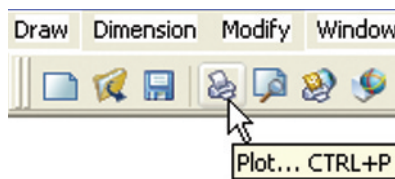
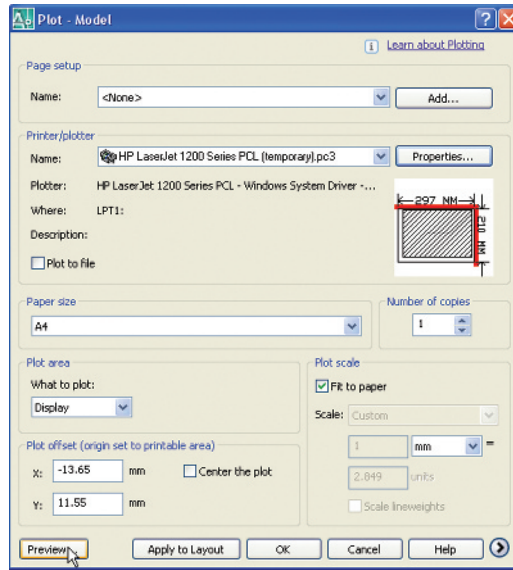

Fig. A.3 The **Plot** tool icon in the **Standard** toolbar
Fig. A.4 The **Plot** dialog
1. Either select **Plot...** with a *click* on its tool icon in the **Standard** toolbar (Fig. A.3) or from the **File** drop-down menu. The **Plot** dialog appears (Fig. A.4).
2. There are two parts in the **Plot** dialog. Fig. A.4 shows both the parts. A *click* on the arrow at the bottom right-hand corner of the dialog closes to reveal only the left-hand part and vice versa.